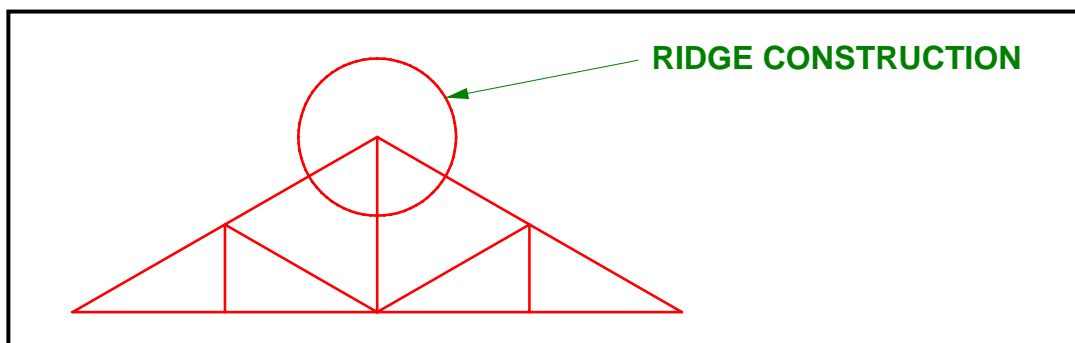

FIGURE 1.8
1.8 FIGURE 1.8 below shows a line diagram of a South African roof truss. Draw a neat, two-dimensional freehand sketch of the ridge construction of the truss in good proportion (the part in the circle).